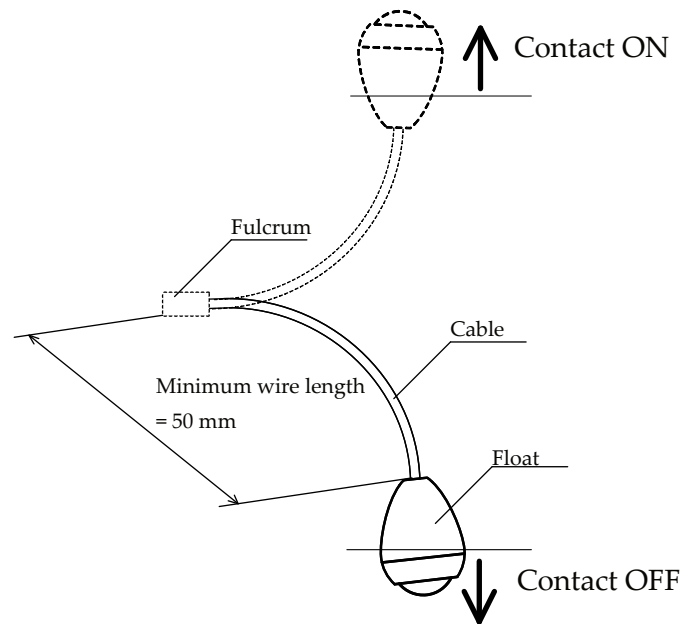

Fig.1 EHFR-1x6S control wire length
2. The minimum control wire length is 50mm (Reffer Fig.1)